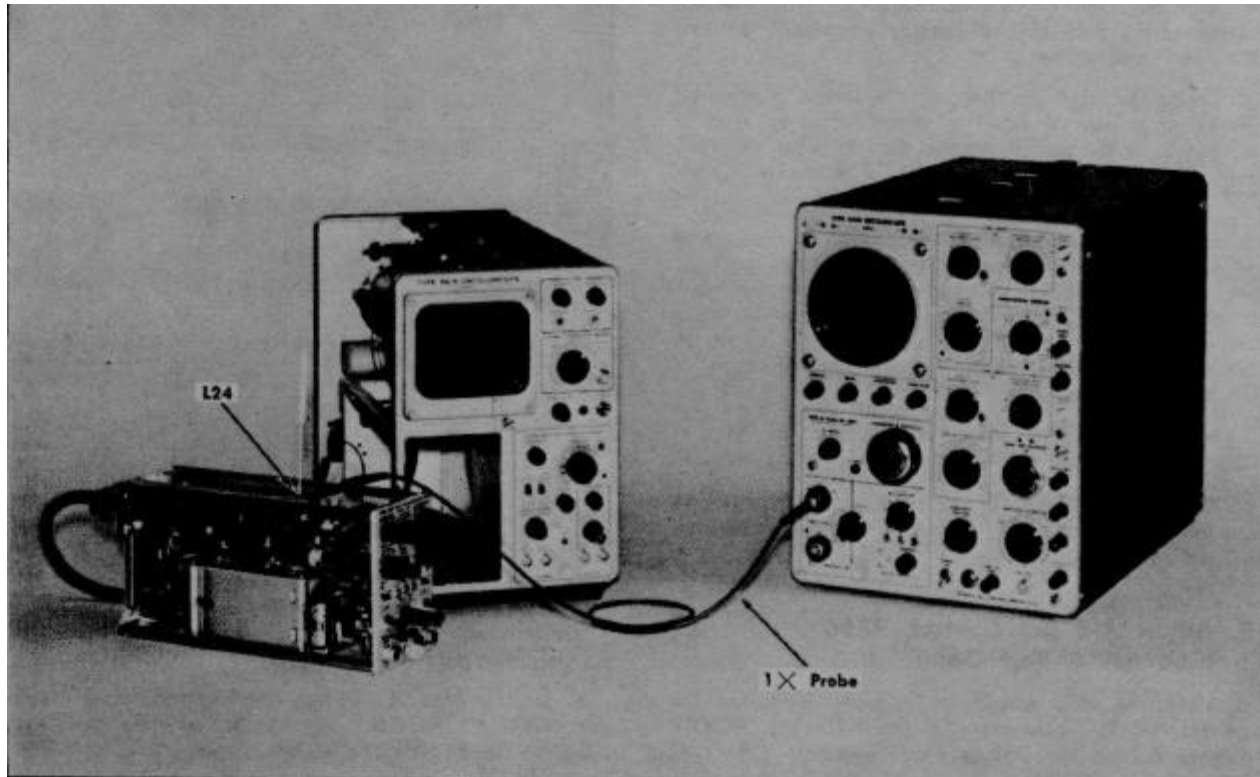

Fig. 8-25. Test Setup for Step 21.
- a. Make the connections and control settings as stated following Fig. 8-25. Insert the coil adjusting tool (item 22 of equipment required) into L24, and hold the 1X Probe tip near L24 as shown in Fig. 8-25.